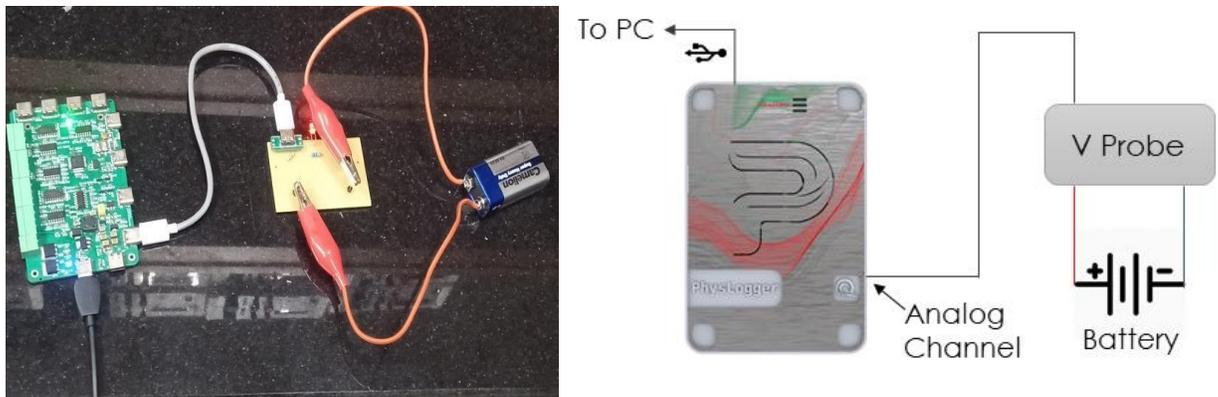

Figure 1: (a) A Photograph of the Setup, and (b) Schematic diagram of the connections required for quality testing a V Probe.
4. Connect the two terminals of the battery of 8 V (the voltage of which is to be determined) with the two terminals of the V probe (keeping in mind the polarity of the connections) as shown in **Figure 1**.